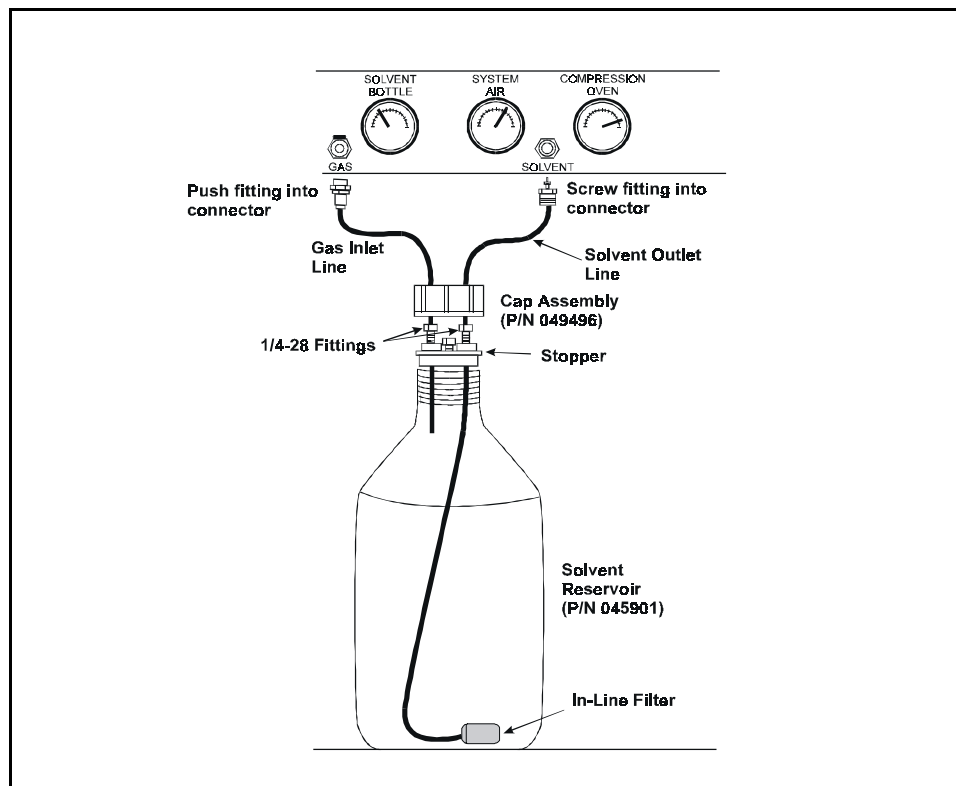

Figure 3-1. Solvent Reservoir Connections
2. Insert the outlet line extending from the underside of the reservoir cap assembly into the reservoir (see Figure 3-1). Make sure that the in-line filter rests on the bottom of the reservoir. This prevents air from being drawn through the line. If needed, gently pull on the outlet line to bring more tubing into the reservoir.
3. Make sure that the solvent level in the reservoir is below the gas inlet line (see Figure 3-1). This prevents solvent from coming into contact with pneumatic valves.